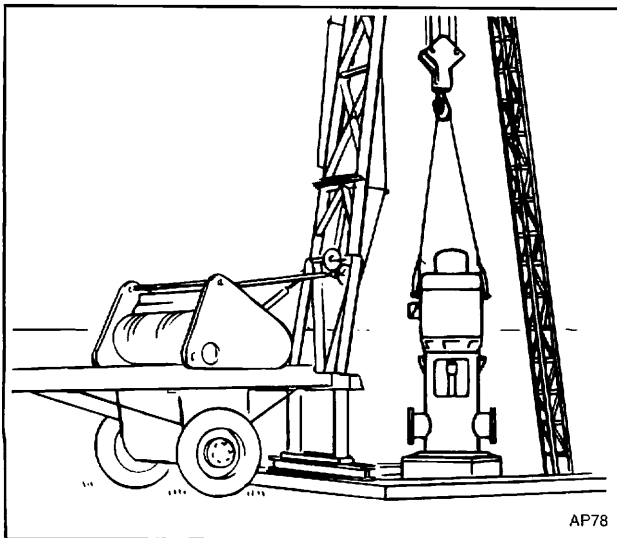

Figure 3. Pump Installation Rig
You can use a portable derrick or tripod, but we recommend a boom crane of adequate capacity or a properly designed pump setting rig similar to that shown in Figure 3. Whatever you choose, your lifting device must allow the load hook to be raised at least two feet higher than the total length of your assembled pump. Your hook should be of the safety type with a good easy working swivel and you must have sufficient reach to center it over the installation position.
- Lifting equipment. See Figure 3.